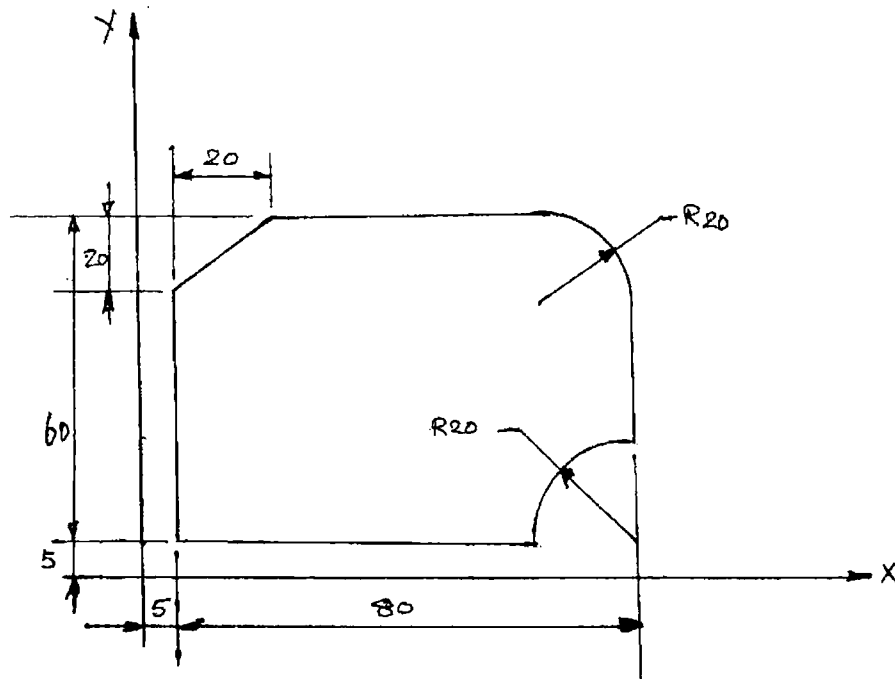

Fig. 1.
- (b) (i) Explain the APT system configuration with a neat block diagram. (8)
(ii) Write the part program for the workpiece shown in figure 1. (8)